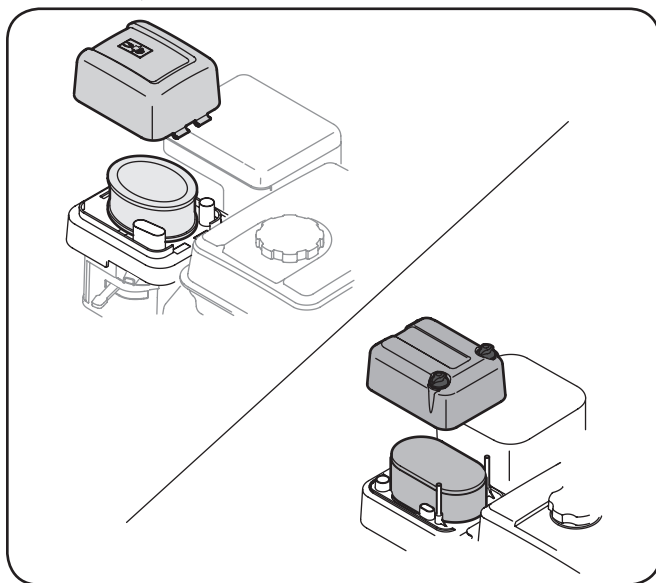

Figure 6-4
1. Press the tab on the air filter cover and lift the cover, or un-thread the thumbscrews, depending on the model of engine you have. See Fig. 6-4.